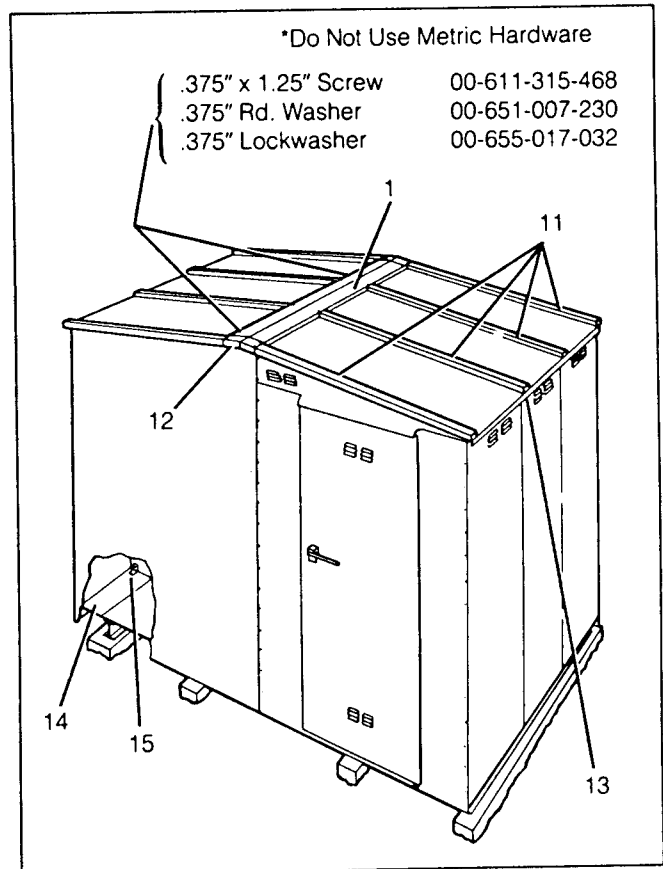

Figure 29. Roof Gable Installation — Single Aisle Layout
12. See Figure 29. Install roof gable assembly (1). Adjust the position of the gable and the channels (11) so that the channels fit into the notches of the gable.
13. Bolt roof gable assembly (1) into place using weld nuts in roof channels (11).
14. Add end gable assembly (12) at each end. Fasten cover (13) to roof.
15. Drill cable cover (14) to suit conduit installation. Clamp the cover in place with angle (15).